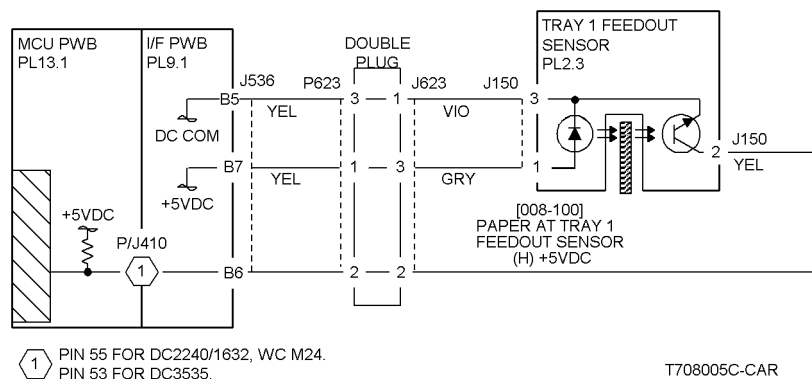
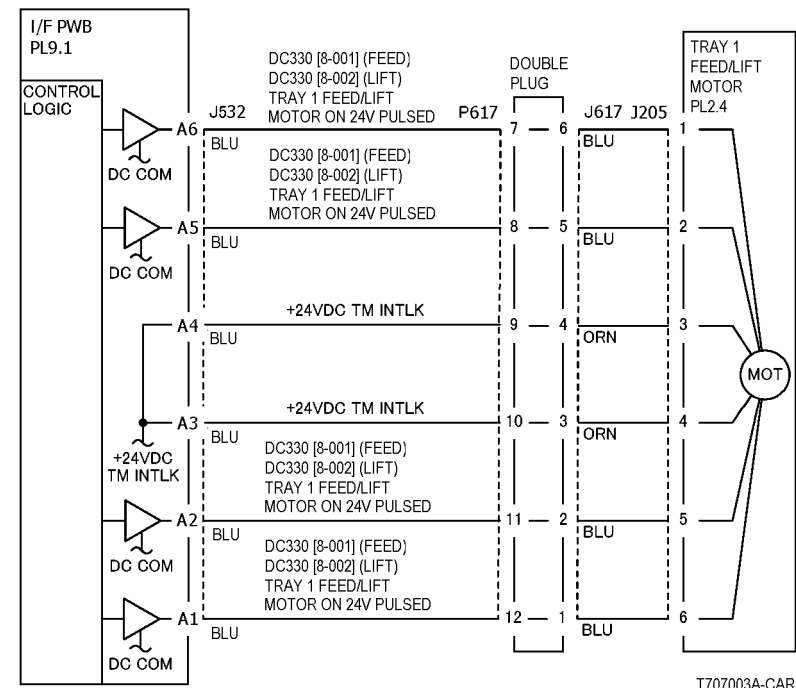

Figure 1 7-105 RAP Circuit Diagram - Tray 1 Feed out Sensor
Figure 2 7-105 RAP Circuit Diagram - Tray 1 Feed/Lift Motor
- Ensure that the connectors shown in the circuit diagrams (Figure 1, Figure 2) are securely connected and that the wires are not damaged.
Press Stop . Check the circuit of the Takeaway Sensor (Figure 1). Refer to the OF 99-2 RAP for troubleshooting procedure.